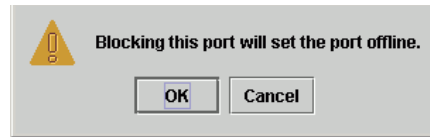

Figure 4-26 Blocking Port Warning Box
6. Select the *Block Port* menu option. A *Warning* dialog box displays (Figure 4-26).